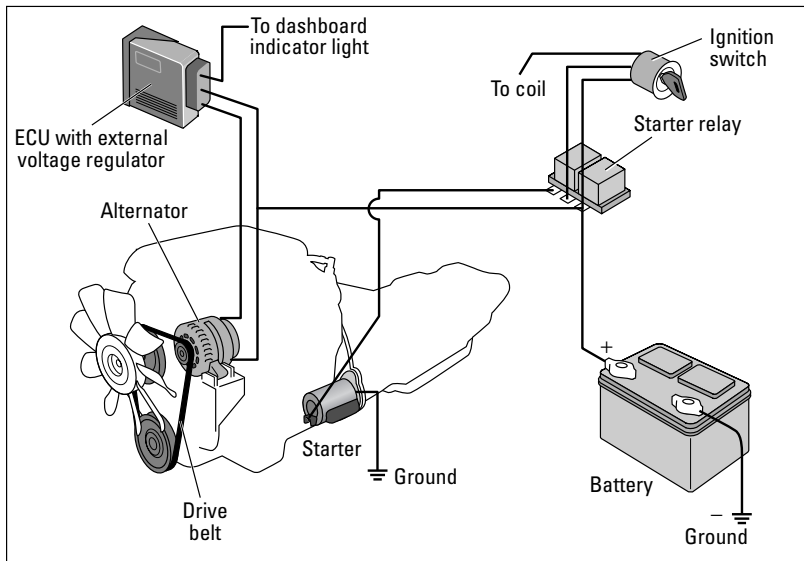

Figure 5-6: The charging system.
After you start your engine, it (usually) runs at a nice steady rumble unless you have a **hybrid or electric vehicle (EV)**. EVs run silently, and hybrids are silent when operating on the electric motor only (see Chapter 10). The rumble in a conventional vehicle is possible because as soon as the pistons in the **cylinders** start to go up and down, your engine begins to run on its usual diet of fuel and air (read all about it in Chapter 7). When you let go of the key and your **ignition switch** moves from “Start” to “On,” the electric current stops flowing to the starter but continues to flow through the **charging system** (see Figure 5-6) and the rest of the **electrical system**.
Figures 5-6 and 5-7) replaces the electricity that was taken from the battery when you started the car. Then, every time your battery sends out some of its "juice," the alternator replaces it.
The *voltage regulator* (see Figures 5-6 and 5-8) is a device that controls the *alternator*. On older cars, it's a little box mounted somewhere under the hood. On newer cars, it may be mounted inside the alternator or inside the *ECU*. If the voltage regulator fails, the alternator is literally “powerless.”